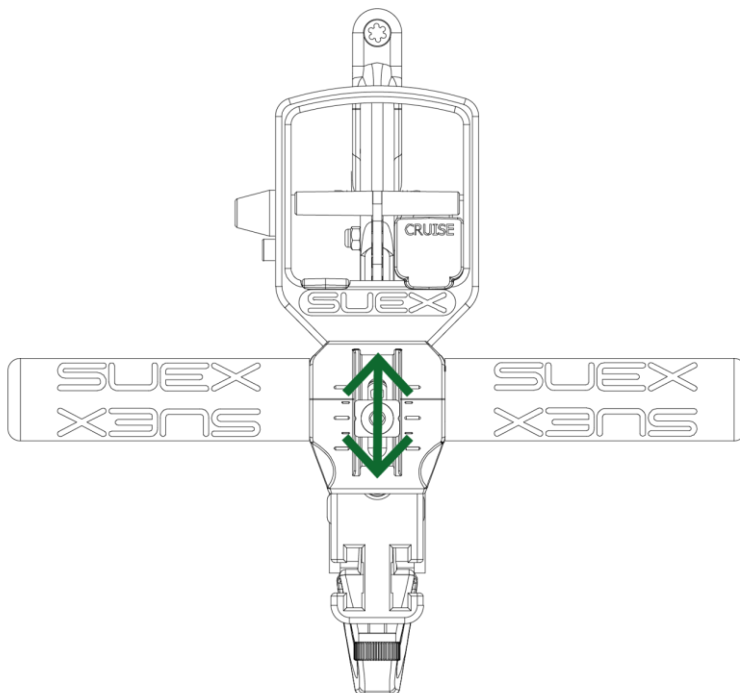

Fig 14 - Adjustment of handle position
- slide it downward to increase the distance from the trigger (for larger hand sizes))**Fig 14 - a pag. 12**